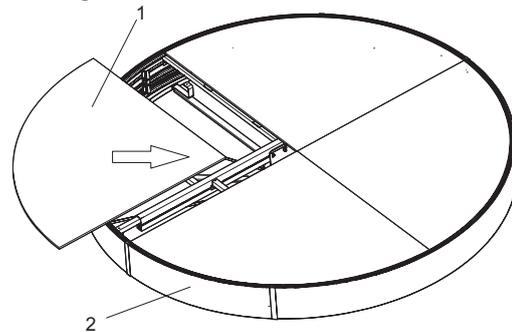

Fig. 55 Positioning the upper ceiling
35. Position upper ceiling elements (Fig. 55/1) (4x) from above in ceiling structure (Fig. 55/2).